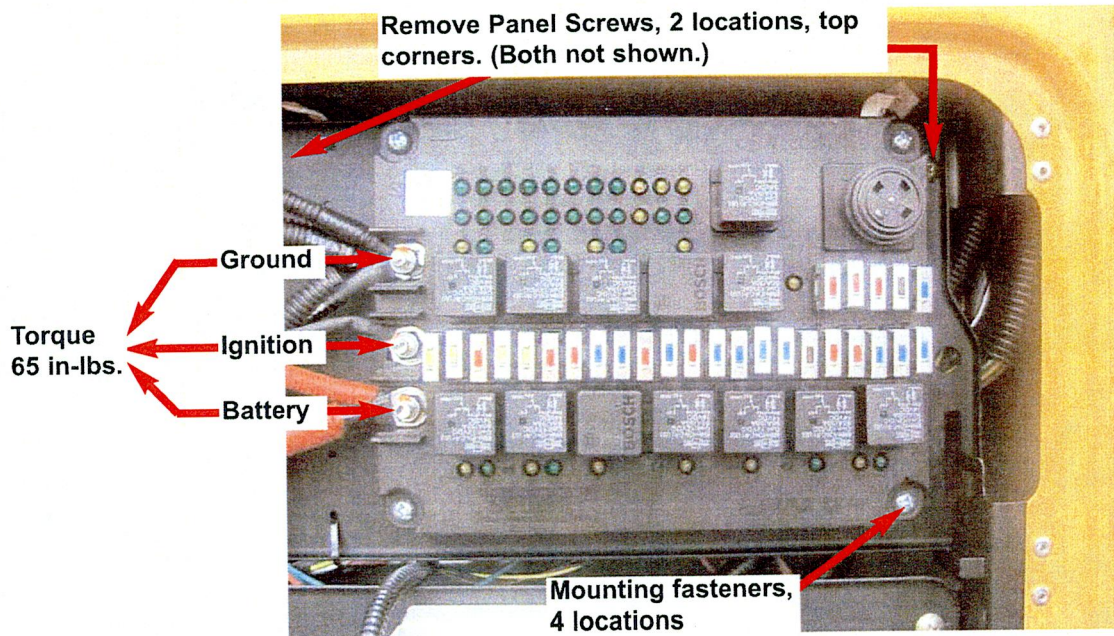

Figure 1
2. Access the Printed Circuit Boards under driver's window. **(Figure 1)**